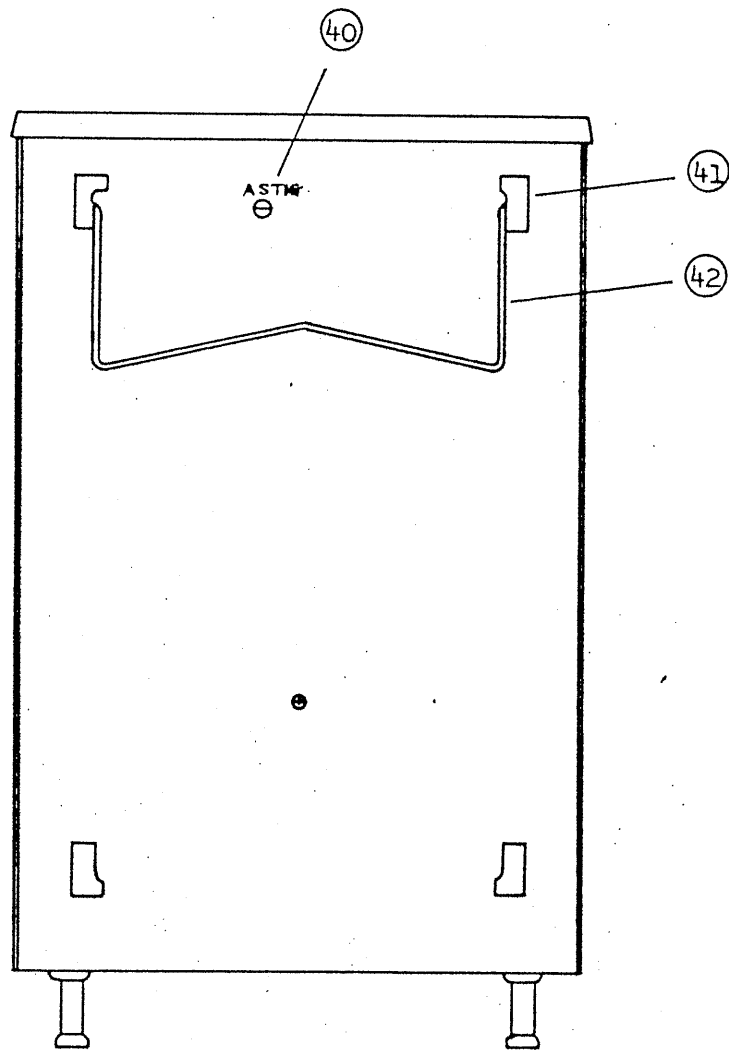

Fig. 3
③⑤	—	AC power cord of the oscilloscope
③⑥	—	Studs for using the oscilloscope in a vertical attitude. Also used as AC power cord take-up posts.
③⑦	Z-AXIS INPUT	Input terminal (binding post) for external intensity modulation signal. Used when intensity is controlled with an external signal, when intensity markers are displayed, etc. When not in use, this terminal must be connected to the GND terminal ③⑧ with the shorting bar.
③⑧	—	GND terminal (binding post). Spacing is 19 mm to match Z-AXIS INPUT terminal ③⑦.
③⑨	(FUSE)	Fuse holder. Fuse rating is 0.5 A for 100 V system AC line or 0.3 A for 200 V system AC line. For replacing the fuse, remove the cap by turning it counterclockwise.
3.3 Explanation of Bottom Panel (See Fig. 3)